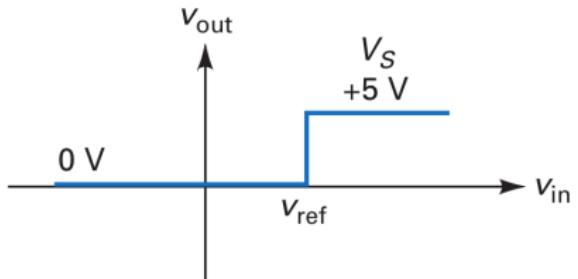

Figure 24: input/output response
- ▶ Because of this, the output swings between 0 and +5 V, as shown in Fig. 24.